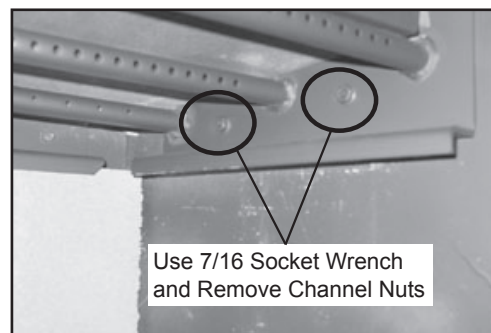

Figure 10.2
3. Locate the 2 channel nuts and two bolts inside of chamber and remove using a 7/16 socket wrench. **Figure 10.2**